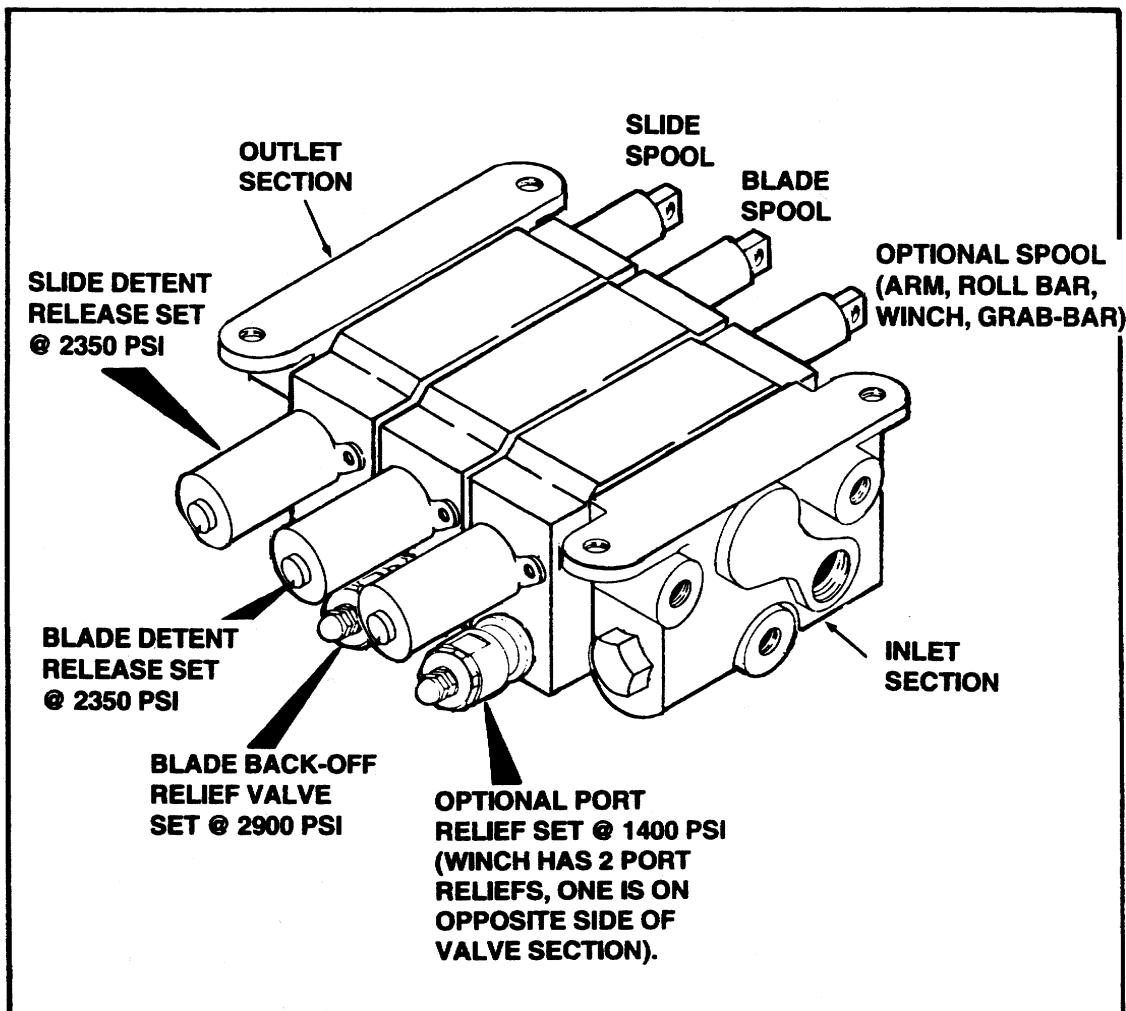

Figure 24.
4. Remove blade control linkage on secondary valve, see figures 24 for valve spool.
6. Lower main relief pressure in Primary (Underbody) Valve two (2) turns out (counterclockwise). Refer to Main Relief Adjustment on page 9.19.